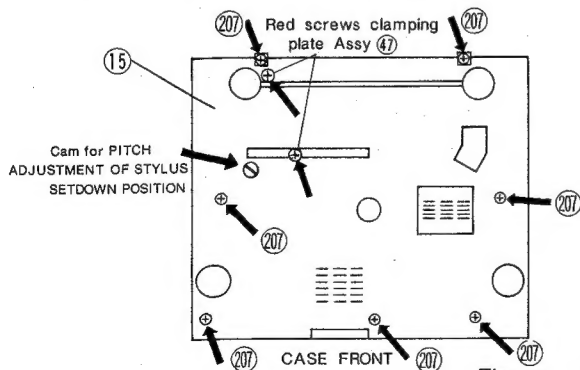

Figure 2
- 1-3. Remove the seven Screws (207) which mount the Case bottom (15) (Fig. 2).